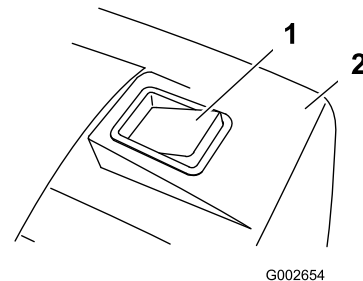

Figure 22
4. Mow with the grass box attached until the grass box indicator shows that the grass box is full (Figure 22).